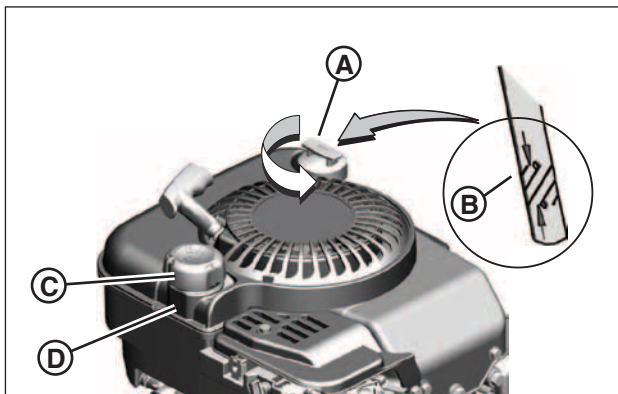

Figure 5: Oil and fuel fill
- Remove the dipstick **(A, Figure 5)** and wipe with a clean cloth.
- Remove the fuel fill cap **(C, Figure 5)**.